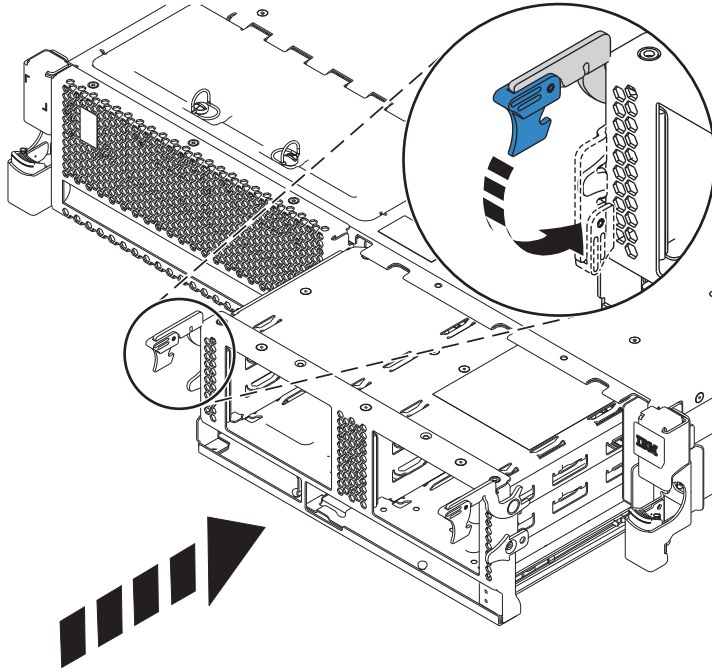

Figure 15. Replacing the disk drive cage
- a. With the disk drive latches extended, push the disk drive cage into the system. See Figure 15 on page 19.